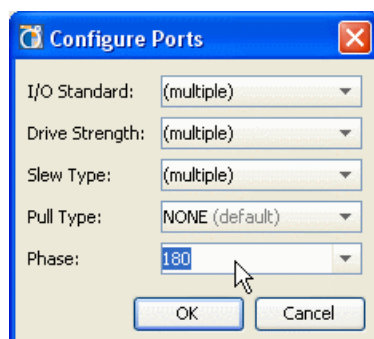

Figure 8-34: **Configure Ports Dialog Box**
2. In the I/O Ports view, Package Pins view, or SSN view, select **Configure I/O Ports**, as shown in Figure 8-34.